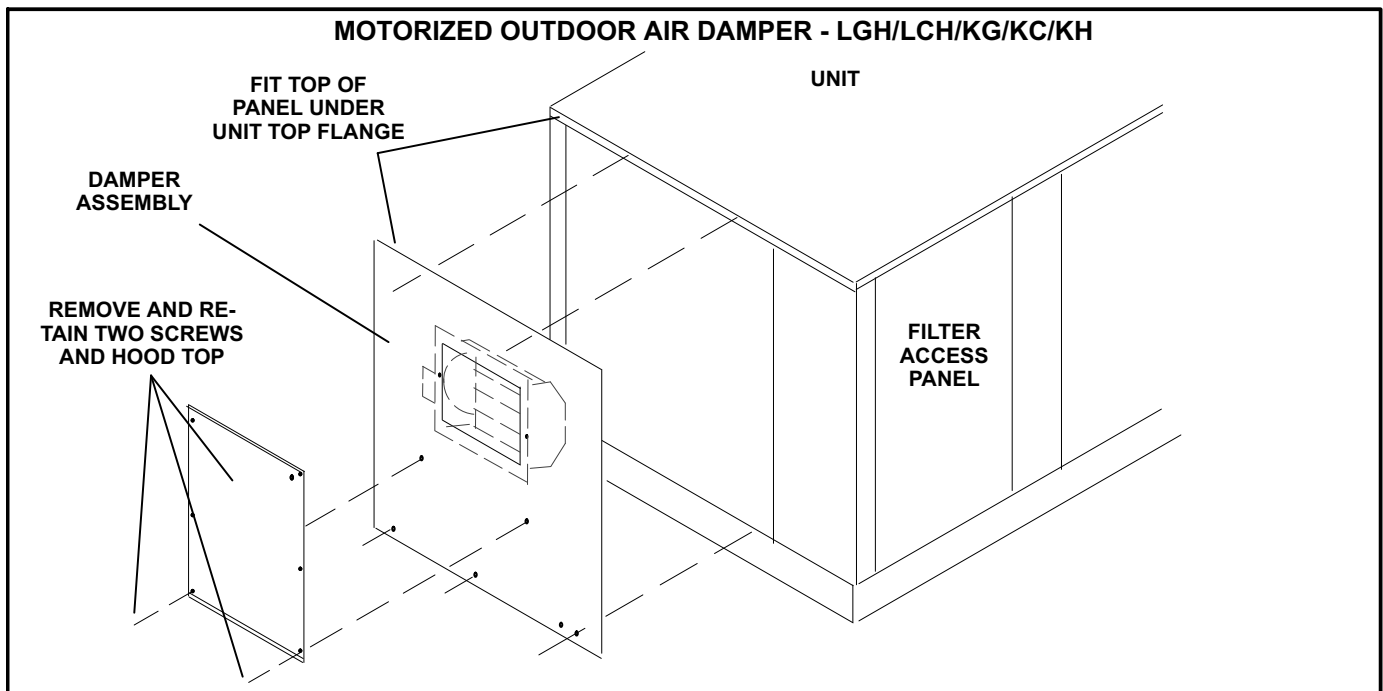

FIGURE 3
- 4- Remove and retain two screws securing the hood top to the damper assembly (provided in kit). Remove hood top and retain. See figure 3.
Locate the two retained screws removed from the hood top in figure 3. Install screws into the two open holes on the unit end panel below the assembled hood. See figure 10.